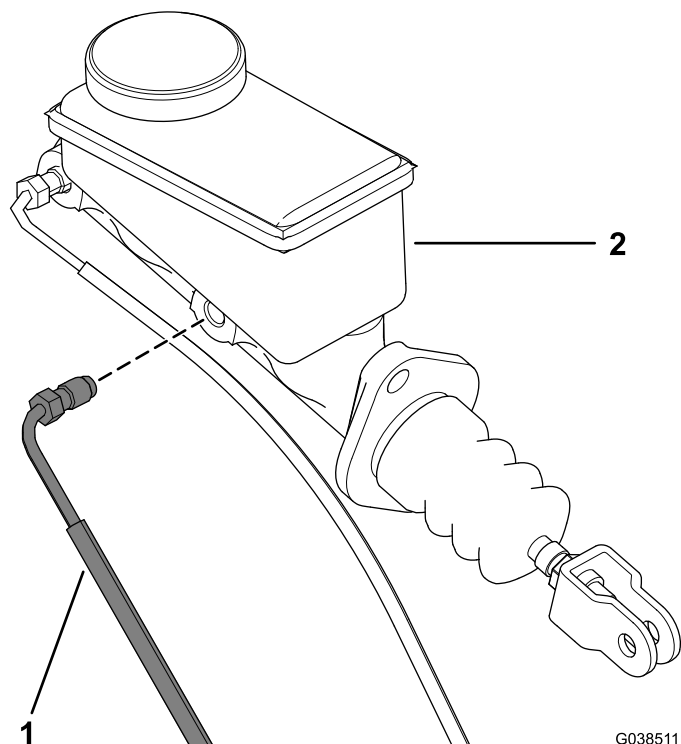

**Figure 4**
- Remove the flange-head bolts (3/8 x 1 inch) that secure the bracket for the brake-caliper assembly to the spindle and remove the brake-caliper assembly from the spindle (Figure 4).
9. Install the new brake-caliper assembly to the spindle using 2 flange-head bolts (3/8 x 1 inch) as shown in Figure 4.